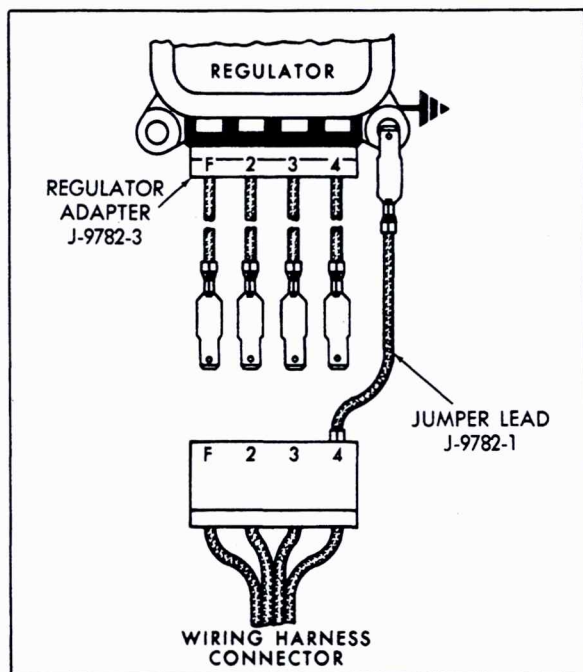

Fig. 6-21 Testing Indicator Lamp Circuit
2. Insert jumper lead, J-9782-1, into wiring harness and connect as shown in Fig. 6-21.